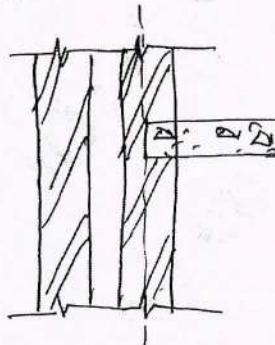

Fig.Q8
- 8 Design an external wall of a single storeyed building, the inner leaf of which supports an eccentric load of 7 kN/m at an eccentricity of 25 mm as shown in Fig.Q8. The wall is an unstiffened, one which supports a concrete roof at the top and rests over a foundation block. Height of the wall is equal to 4.0 m .